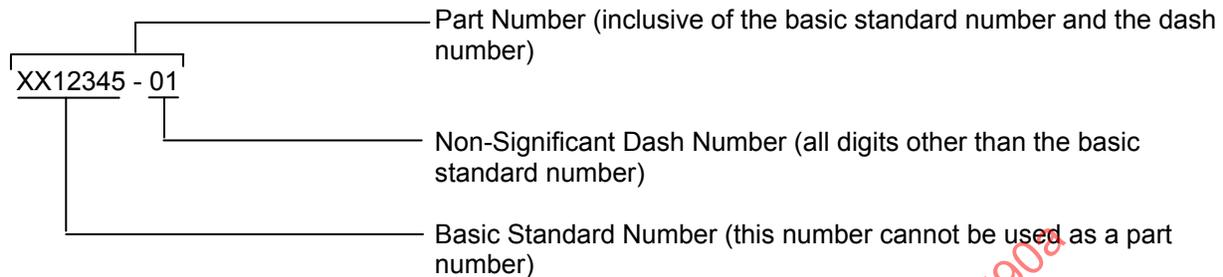

FIGURE 1 - EXAMPLE OF A SIMPLE PART NUMBER
3.4 Example of a Simple Part Number (see Figure 1)